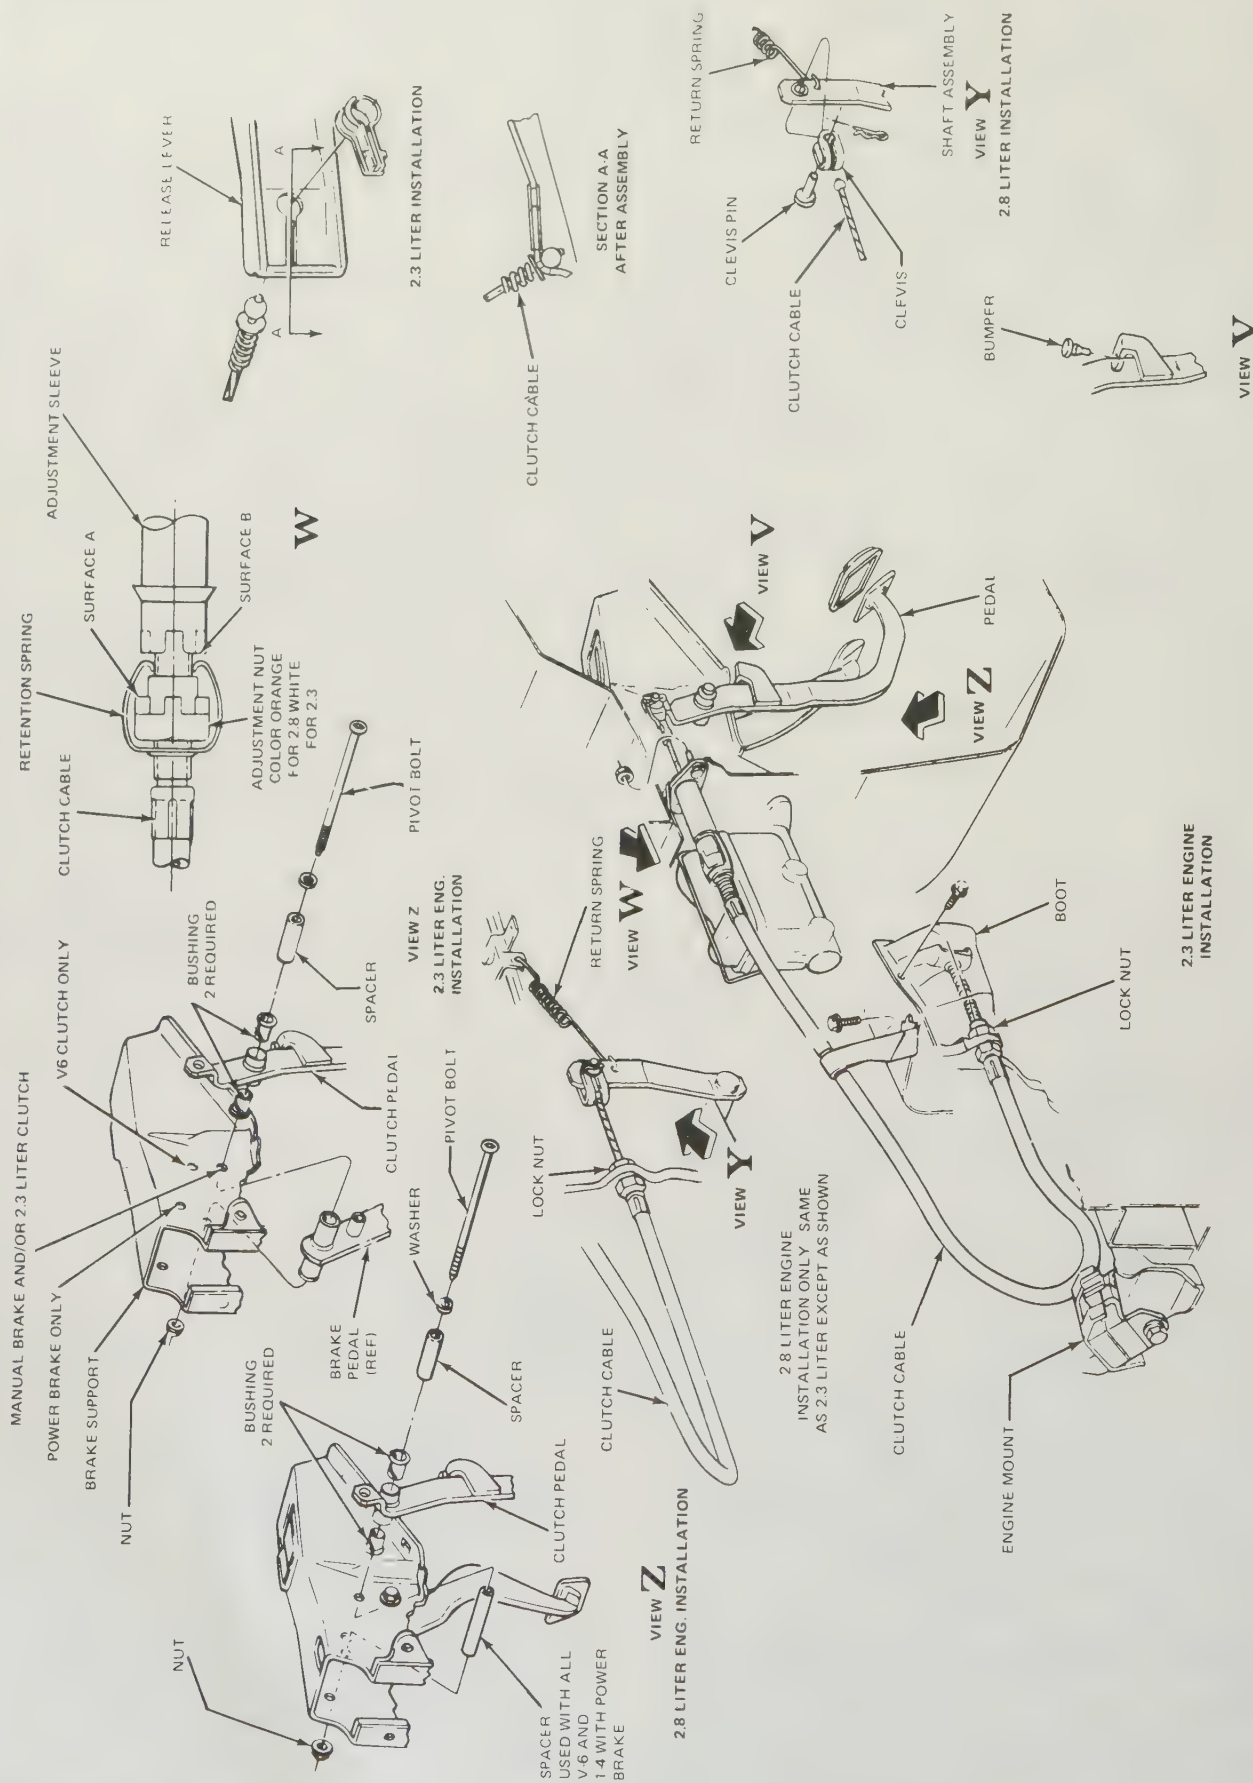

Fig. 5.3. 2.3 liter and V6 clutch cable and components
- 4 Remove the clutch and brake pedal pivot nut located on the right-hand side of the mounting bracket (see Fig. 5.3).